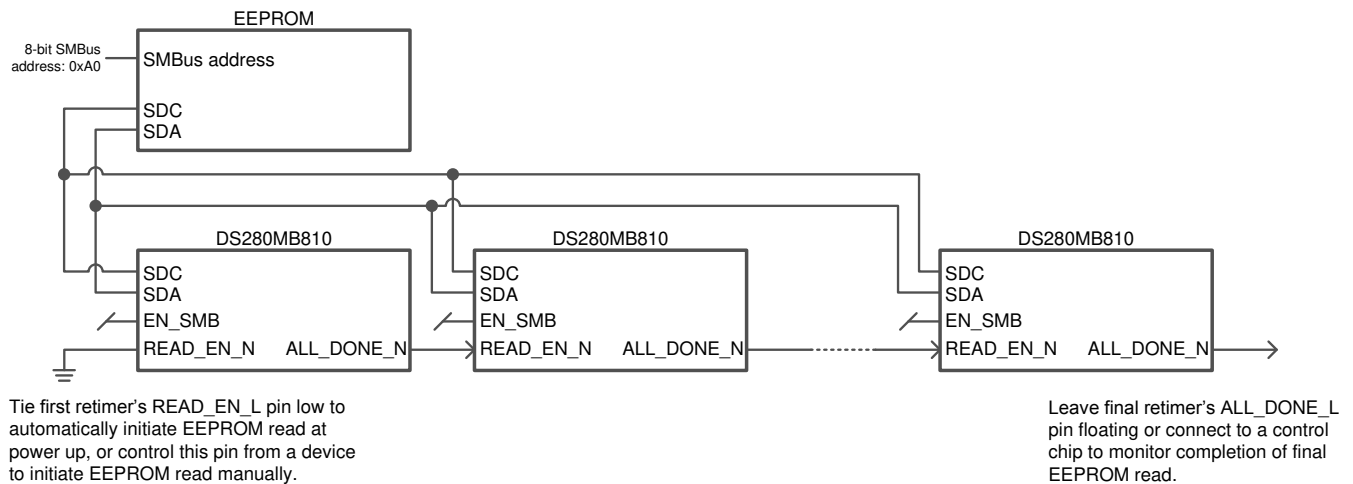

图 8-4. Example daisy chain for multiple device, single EEPROM configuration
- If multiple DS280MB810 devices share a single EEPROM, connect the ALL\_DONE\_N output of the first device to the READ\_EN\_N input of the next device, as shown in 图 8-4.